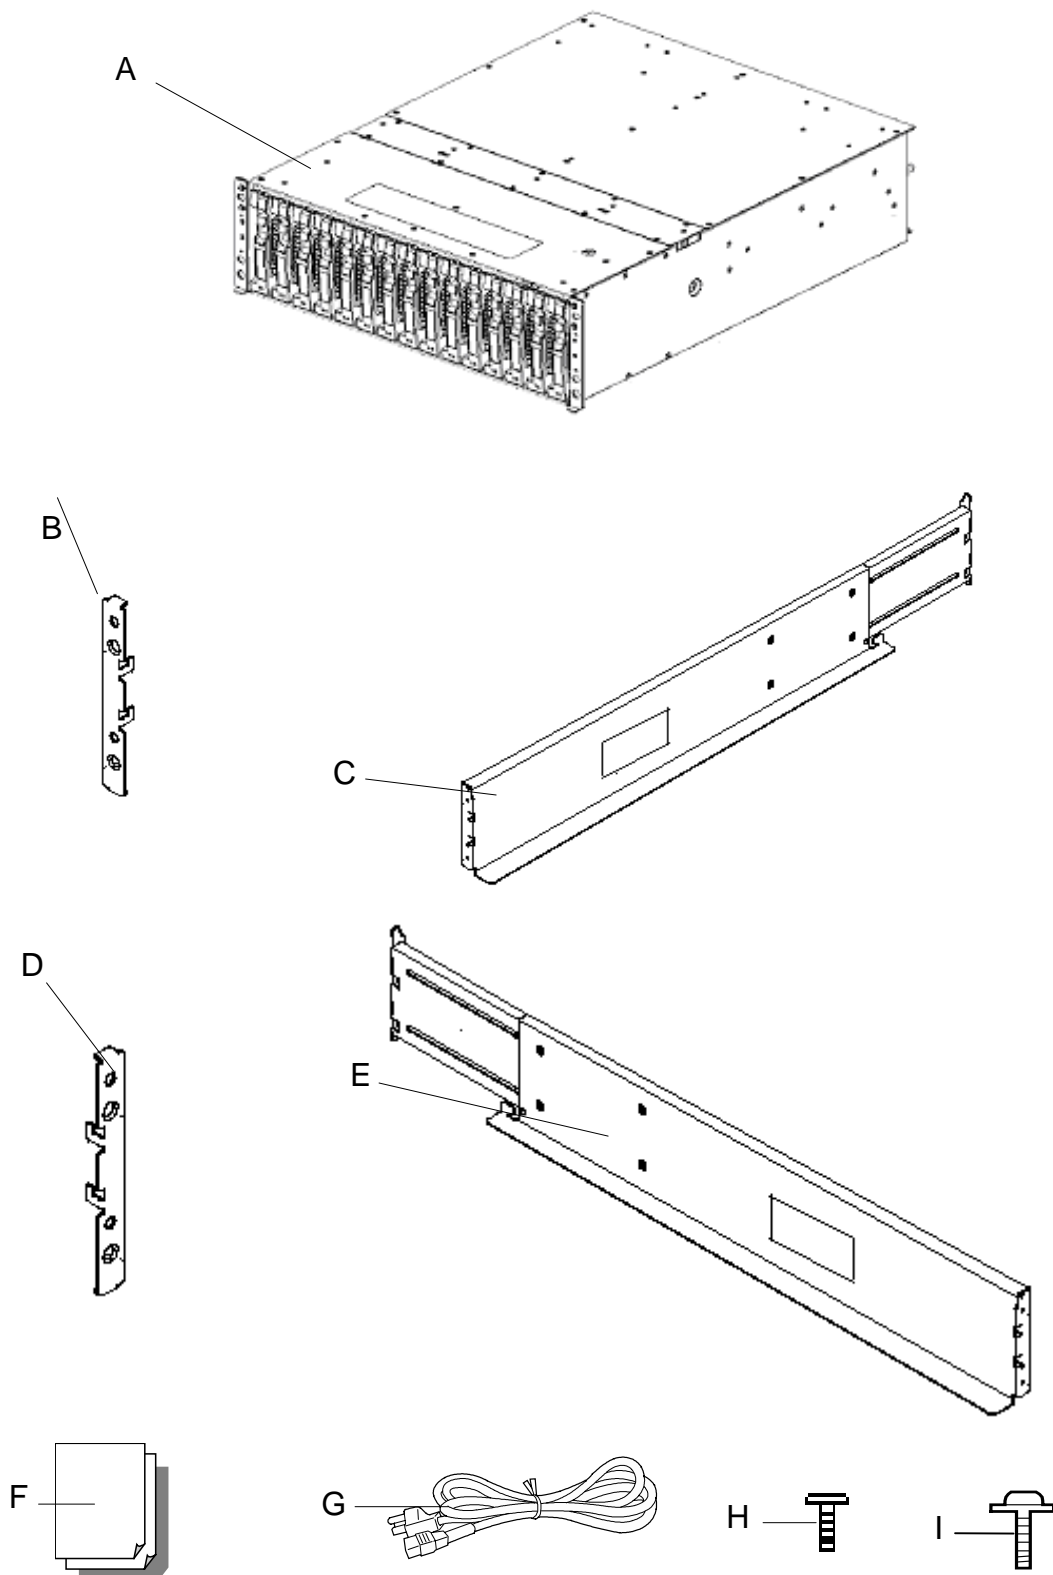

Figure 2-1. DAU and Rack Mount Kit Parts
2. Place the DAU shipping container on a flat, clean, stable surface. Carefully remove the DAU and set it aside. If the DAU is damaged, notify your server representative. See Figure 2-1, A.
3. Carefully remove the parts in the Accessories Kit and verify the contents. See Figure 2-1, B through I and Table 2-1. If parts are missing or the hardware is damaged, notify your server representative.